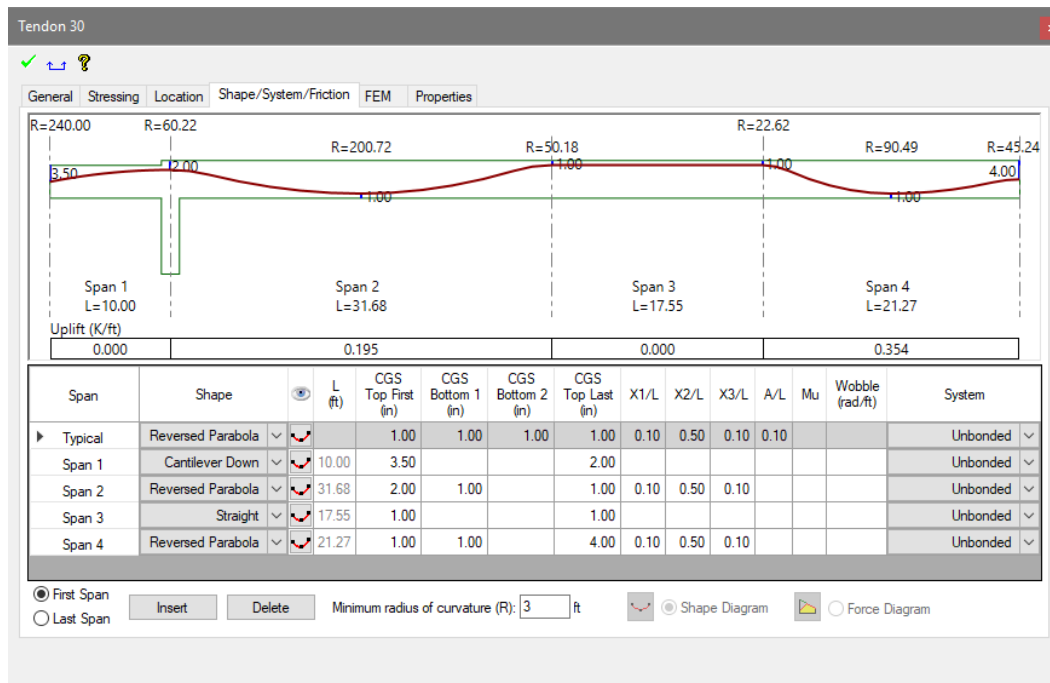

Figure 9-70
- If we **double-click** on one of the selected tendons and click on the *Shape/System/Friction* tab of the tendon properties the user should see a profile similar to that shown in **FIGURE 9-70**.